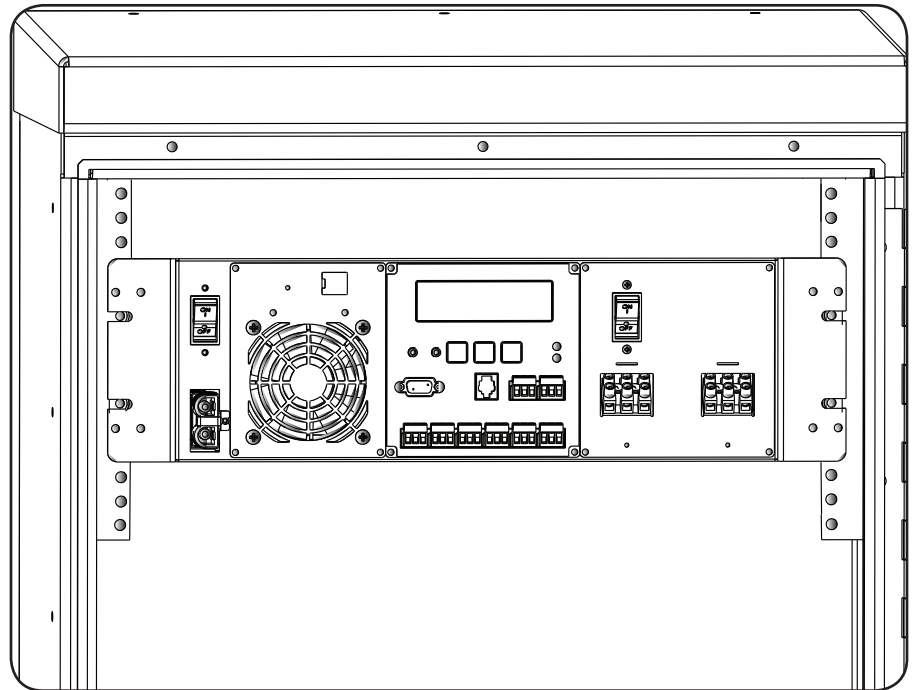

Figure 6.15 - UPS Module (installed in MMOE-FXM2000-48-120-LN)
2. Align the mounting ear holes of the UPS module in front of the mounting rail holes. (See Figure 6-15).